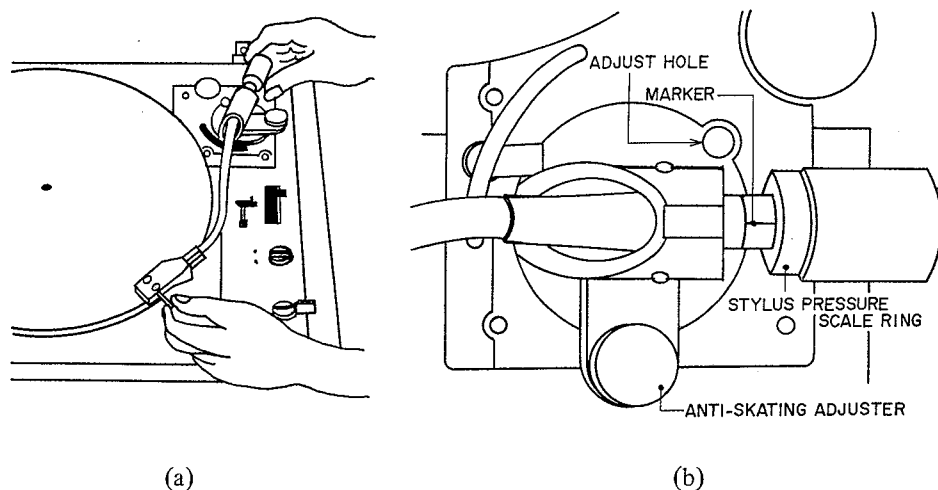

Fig. 8
- 7) Without moving the main weight, turn the stylus pressure scale ring only to match the "0" mark with the marker on the weight shaft (see Fig. 8).